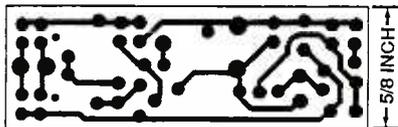

Fig. 2. If you'd like to etch your own board for the Transmitter, use this template.
**Construction.** The circuit is simple enough to build on perforated construction board, but the tight design of the PC board shown in Fig. 2 is desirable. If you would like to use a PC board, you can either use the foil pattern provided in that figure to make your own PC board, or order a pre-etched and drilled board as part of a